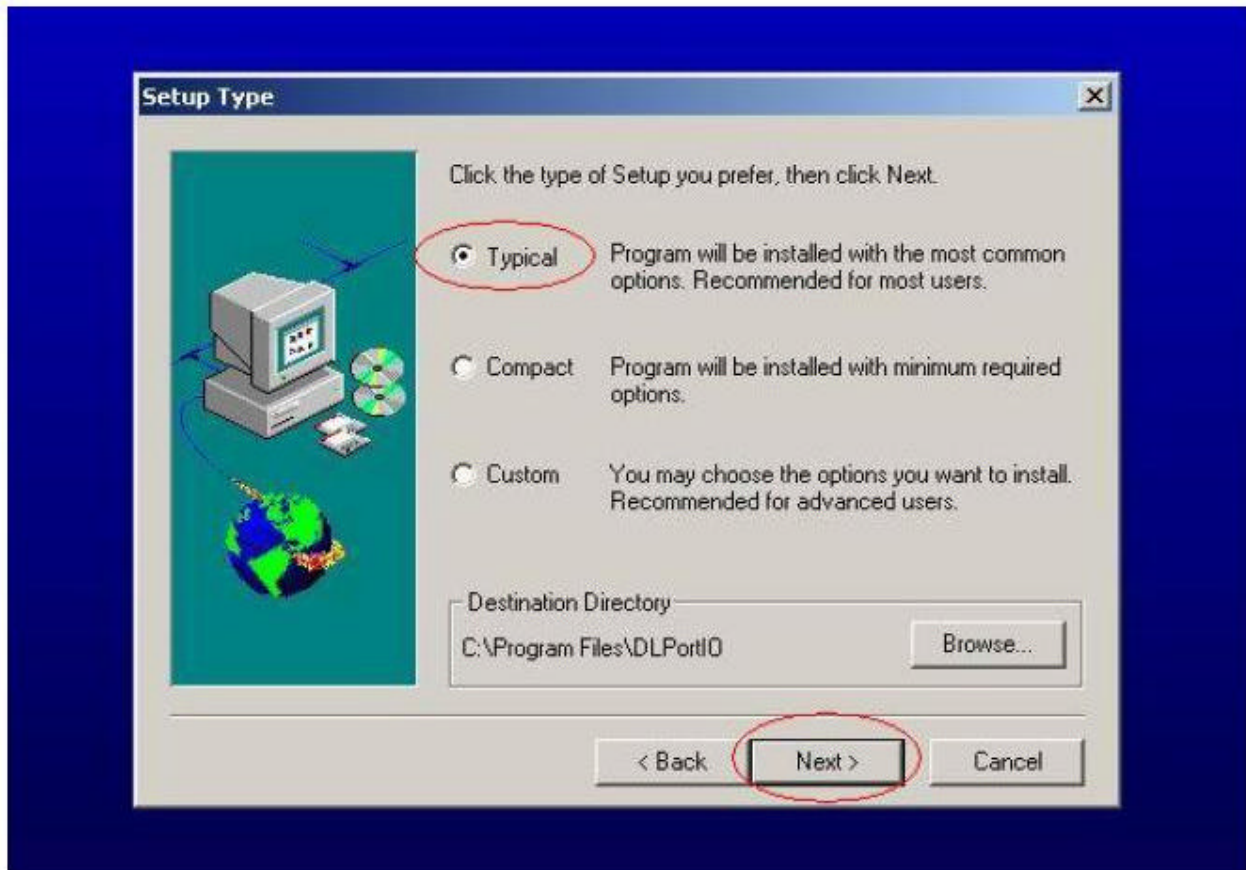

Fig. 0.3
0.3 Choose " Typical " then press " Next " , see Fig. 0.3